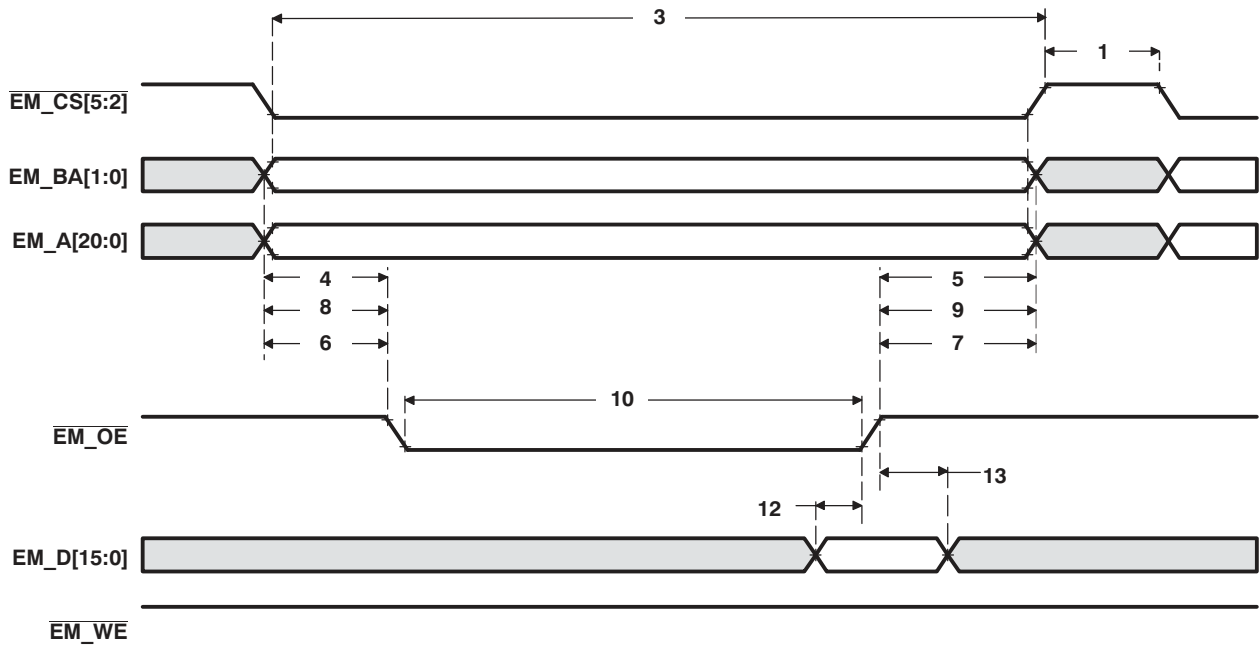
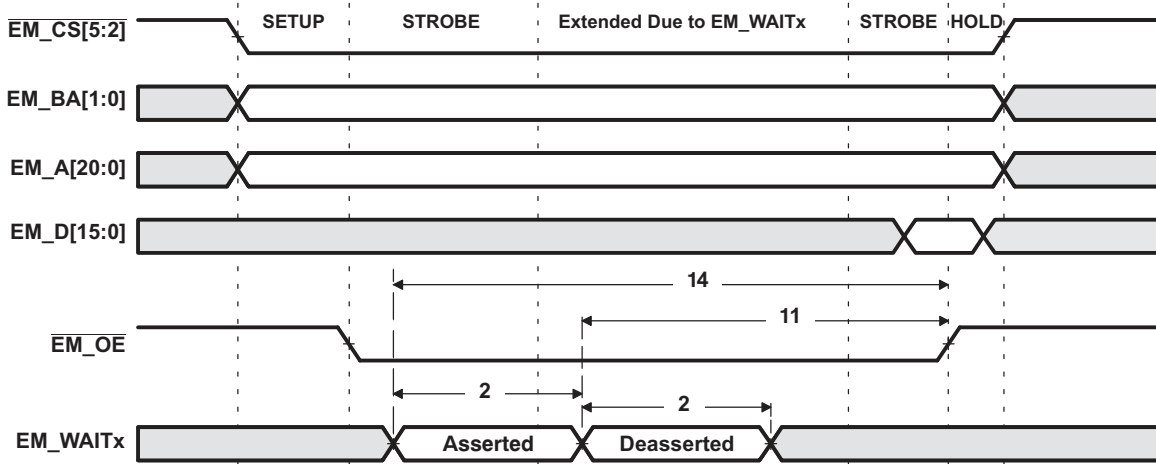
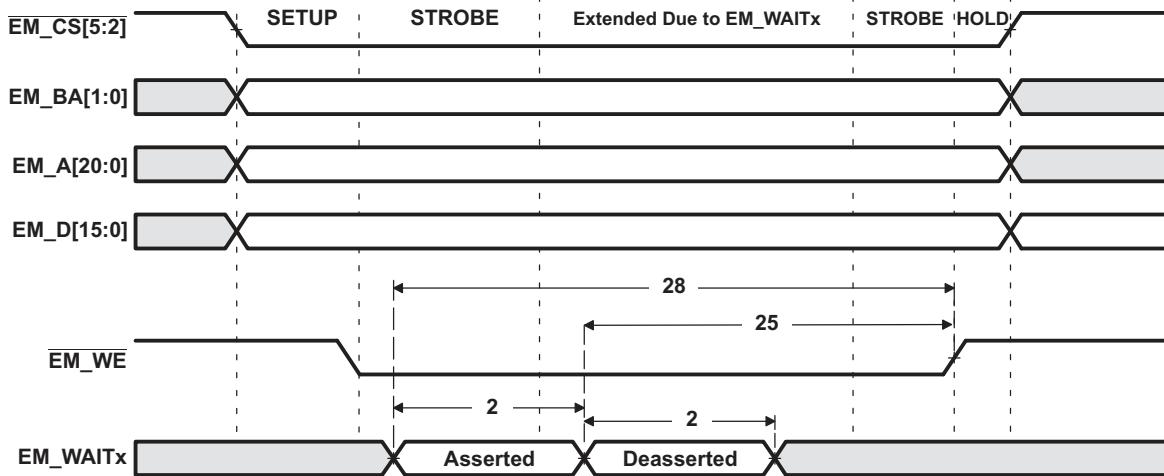

Figure 5-17. Asynchronous Memory Read Timing for EMIF
Figure 5-19. EM_WAITx Read Timing Requirements
Figure 5-20. EM_WAITx Write Timing Requirements
Table 5-19. Timing Requirements for EMIF Asynchronous Memory⁽¹⁾⁽²⁾ (see Figure 5-17, Figure 5-19, and Figure 5-20)
- (1) Timing parameters are obtained with 10pF loading on the EMIF pins.
- (2) E = SYSCLK period in ns. For example, when SYSCLK is set to 100/120 MHz, E = 10/8.33 ns, respectively.
- (3) Setup before end of STROBE phase (if no extended wait states are inserted) by which EM_WAITx must be asserted to add extended wait states. Figure 5-19 and Figure 5-20 describe EMIF transactions that include extended wait states inserted during the STROBE phase. However, cycles inserted as part of this extended wait period should not be counted; the 4E requirement is to the start of where the HOLD phase would begin if there were no extended wait cycles.
Table 5-20. Switching Characteristics Over Recommended Operating Conditions for EMIF Asynchronous Memory^{(1)(2) (3) (4)} (see Figure 5-17, Figure 5-19, and Figure 5-20)
(1) Timing parameters are obtained with 10pF loading on the EMIF pins.
(2) TA = Turn around, RS = Read setup, RST = Read strobe, RH = Read hold, WS = Write setup, WST = Write strobe, WH = Write hold, MEWC = Maximum external wait cycles. These parameters are programmed via the Asynchronous Configuration and Asynchronous Wait Cycle Configuration Registers.
(3) E = SYSCLK period in ns. For example, when SYSCLK is set to 100/120 MHz, E = 10/8.33 ns, respectively.
(4) EWC = external wait cycles determined by EM_WAITx input signal. EWC supports the following range of values EWC[256-1]. Note that the maximum wait time before timeout is specified by bit field MEWC in the Asynchronous Wait Cycle Configuration Register.
Table 5-20. Switching Characteristics Over Recommended Operating Conditions for EMIF Asynchronous Memory^{(1)(2) (3) (4)} (see Figure 5-17, Figure 5-19, and Figure 5-20) (continued)